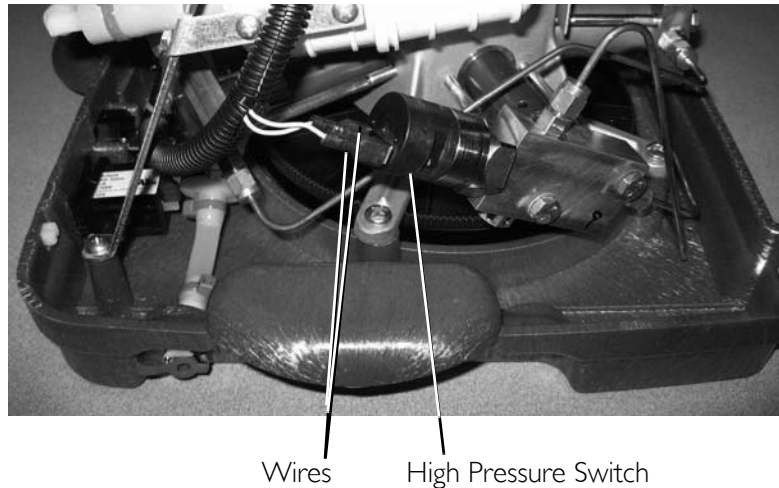

FIGURE 9.2 Motor Replacement
8. Disconnect the two wires from the high pressure switch (FIGURE 9.2).
20. Connect the two wires to the high pressure switch (FIGURE 9.2).